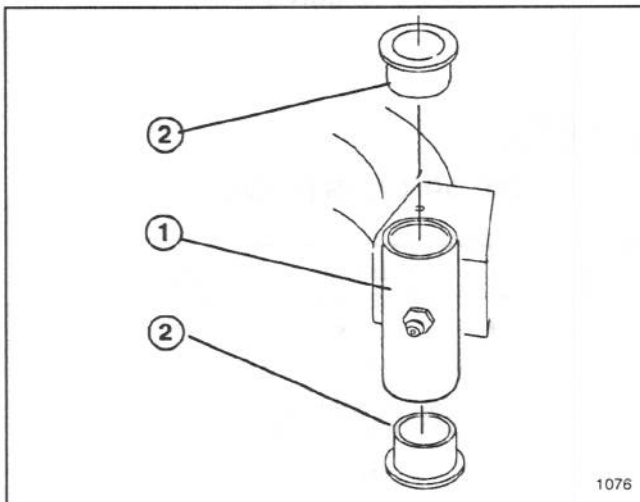

Figure 10
2. Remove retaining ring, spacer and thrust washer(s) from top of castor spindle (Fig. 10). Pull castor spindle out of mounting tube. Leaving thrust washers on bottom of spindle.
3. Insert pin punch into mounting tube and drive out bushings (Fig. 10). Clean inside mounting tube.